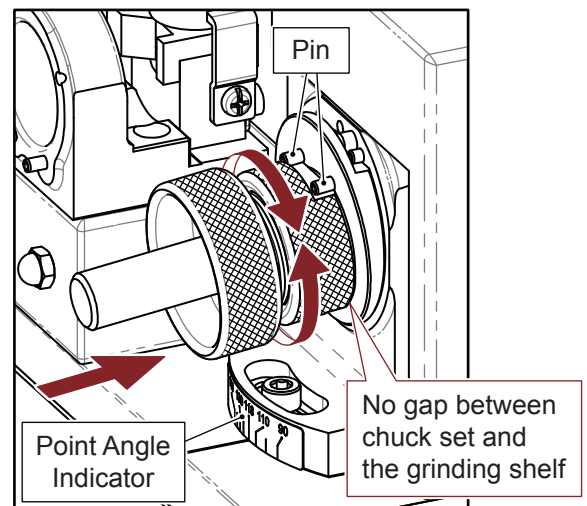

Fig. 4-10
1) Cutting Lip Grinding (Fig. 4-10)
① Insert the chuck set into the cutting lip grinding shelf, the slot of clamping nut must fit with the two pins on the shelf, push the chuck set gently and turn it clockwise and counterclockwise until the grinding noise stops.
② Take the chuck set out, turn it to the other side and grind the drill in the same way.